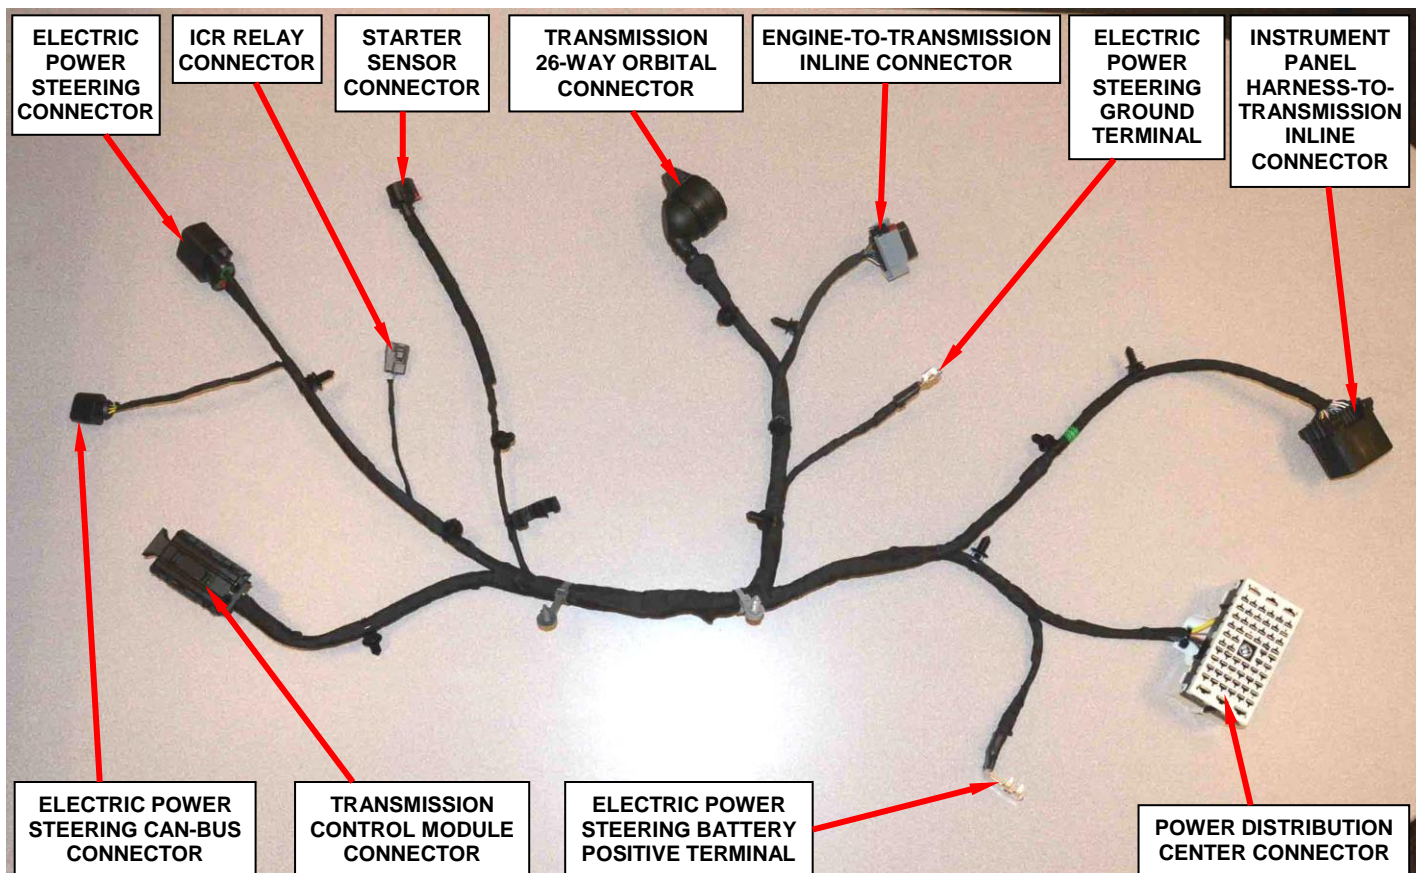

Figure 23 – Wire Harness and Electrical Connectors
25. Place the original wire harness next to the new wire harness and verify that all the electrical connectors are the same (Figure 23).